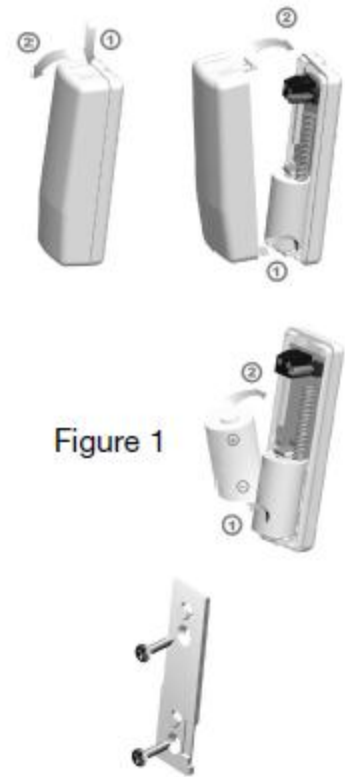

Figure 1
1. Carefully remove the top cover from the base by pressing on the end release button (see Figure 1) and then remove the cover.